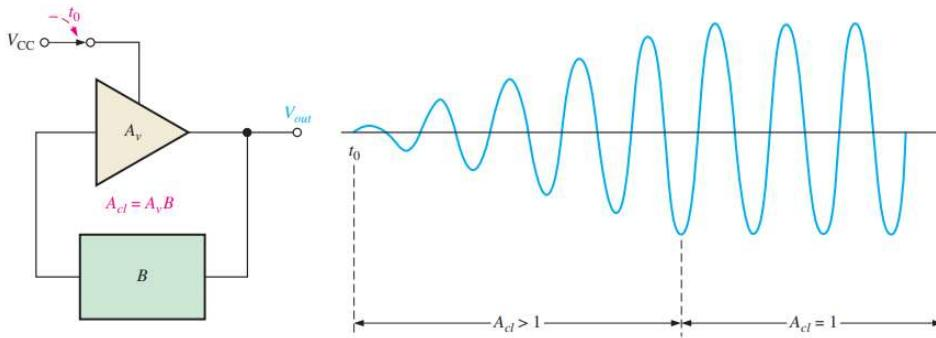

**Figure 3-19:**To maintain a sine wave, the loop gain (product of  $A_vB$ ) must be equal to 1.
2. The voltage gain, Acl, around the closed feedback loop (loop gain) must equal or greater than 1 (unity) as illustrated in Figure 3-19. For a sine wave oscillator, the loop gain must be exactly 1; otherwise the output is distorted with clipping.